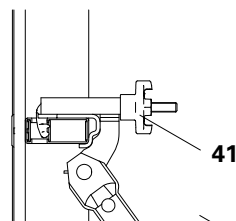

Fig. A6.03a
1. Attach push-pull prop or kicker with pin and cotter pin (41.3) to the Brace Connector TRIO. (Fig. A6.03a)